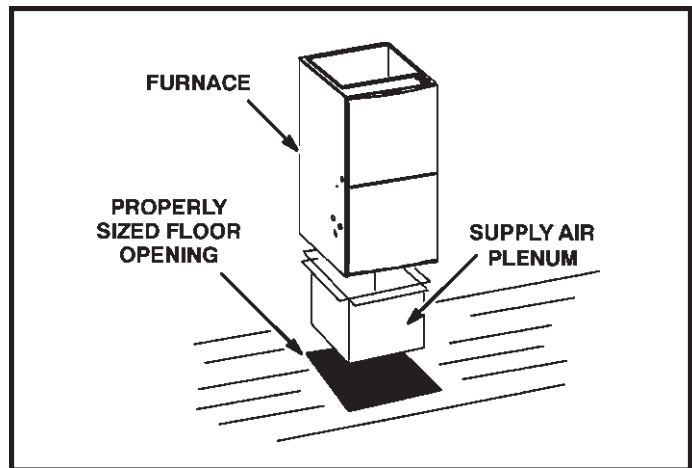

Figure 11
**Installation on Non-Combustible Flooring (Figure 11)**